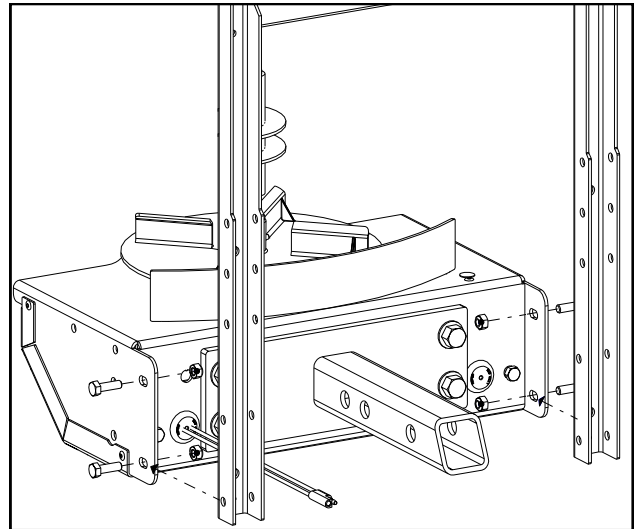

Fig 1.2
- 1.2 Mount the support frame to the drive assembly using the six supplied 5/16" x 1" cap screws and the four supplied 5/16" locknuts. Tighten the fasteners according to the torque chart. As shown in figure 1.2.